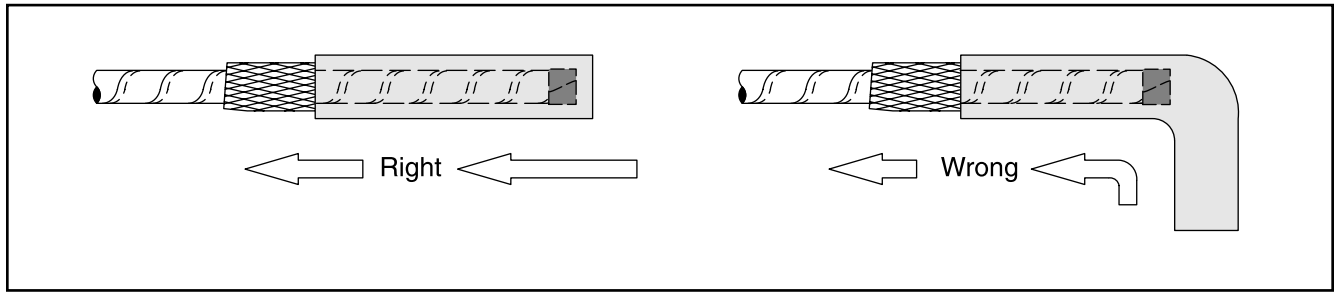

Figure 7
- 4.5 Guide one re-jacketing sleeve assembly over each cable phase leg (Figure 7). **Push sleeve assembly from above. Continuously guide the free end maintaining sleeve-to-cable-core alignment.**